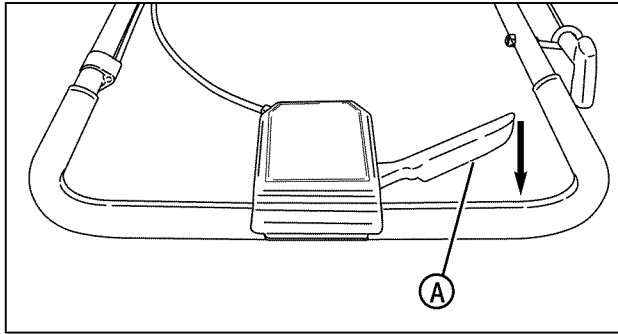

Figure 4: Wheel drive control
2. Begin squeezing the wheel drive control (A, Figure 4) back toward the handle to engage the wheel drive and propel the mower forward. Forward speed can be increased by squeezing the wheel drive control further back toward the handle.